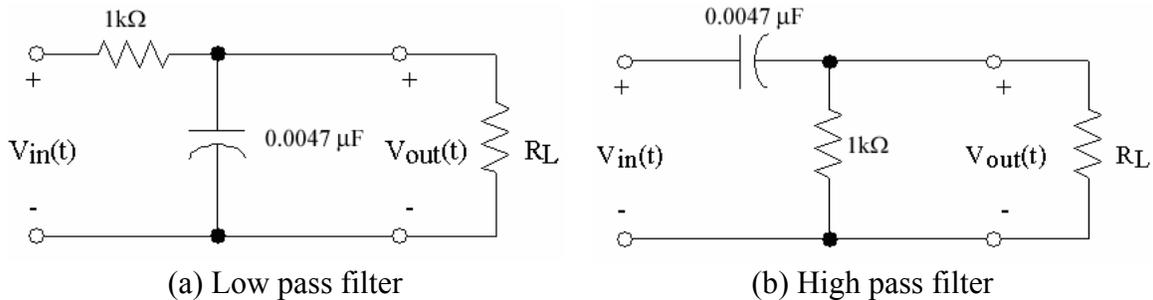
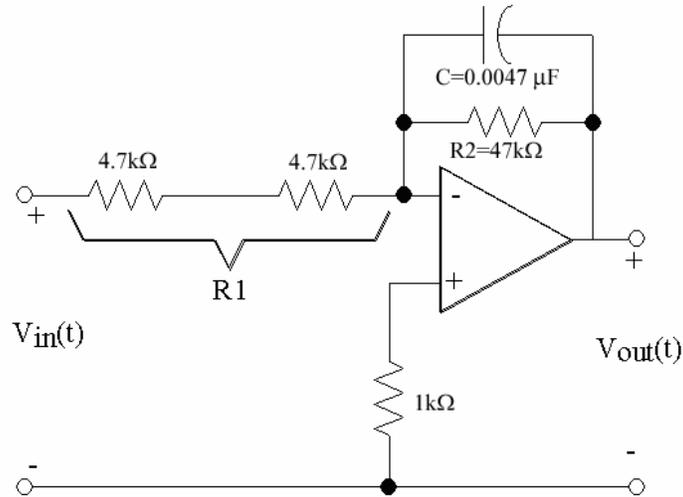
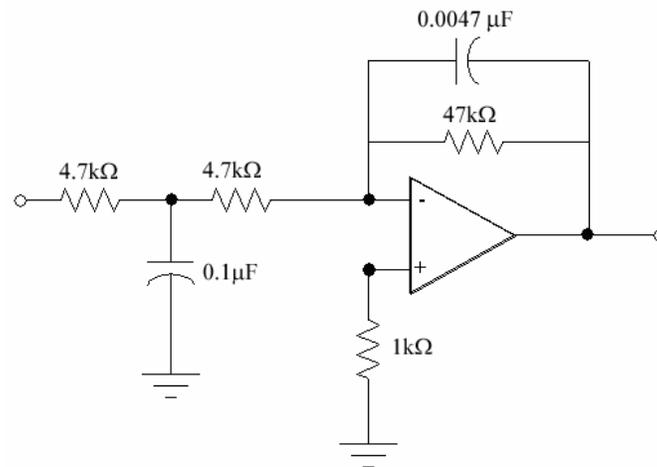

Figure 3. Passive filters.
Figure 4. First Order Active low pass filter.
Figure 5. Second order Active low pass filter.
An active filter is a circuit that includes an op amp as well as having the characteristics of a filter. Recall the circuits for passive high pass and low pass filters. Their circuit diagrams are shown in Figure 3. Note that in each case a load resistor,  $R_L$ , has been added to the circuit to make it describe a more realistic situation (there will always be a load on the output of a filter circuit). The frequency characteristics of the filter are dependent upon the load resistor, which is hardly a desirable feature. In this lab you will study a variation of the low pass filter, namely, an active low pass filter as shown in Figure 4. Active filters include an op amp as an integral part of the circuit. The effect of the op amp is two-fold. First, it serves as the source of current for the load that follows the filter, thus eliminating the effect of the load resistance on the characteristics of the filter and, second, it permits adding positive gain to the filter.
Note that in the circuit of Figure 4 there is a capacitor in the feedback loop. This circuit will behave similar to the low pass filter of Figure 3, but with a different cutoff frequency. (Note that the component values in the circuit of Figure 4 are not the same as those in Figure 3.) This is primarily because of non-ideal characteristics of the 741 op amp.
The filter circuits of Figure 3 and Figure 4 are called **first order filters** and they have similar abilities to reject frequencies past the cutoff frequency, i.e., their frequency response rolls off at the same rate. There will be occasions when you would like to have better frequency rejection than is provided by a first order filter. (Perhaps the signal that you are interested in is corrupted by lots of noise.) A filter such as that shown in Figure 5 can provide this increased attenuation of the high frequencies. Note that this filter includes a capacitor in the input network as well as in the feedback network. Such a filter is called a **second order filter**.
The transfer function,  $H(j\omega)$ , for the active low-pass filter circuit in Figure 4 can be mathematically shown to be
1. Build the active first order low pass filter circuit shown in Figure 4. Keep the power supply output turned off while assembling the circuit. After completing a set of measurements on this circuit you will be adding a capacitor between the two  $4.7k\Omega$  resistors as shown in Figure 5, so be sure to leave adequate space.
4. Connect a  $0.1 \mu F$  capacitor into the circuit as shown in Figure 5 and repeat Steps (2) and (3) above, recording your data in Data Table 4.